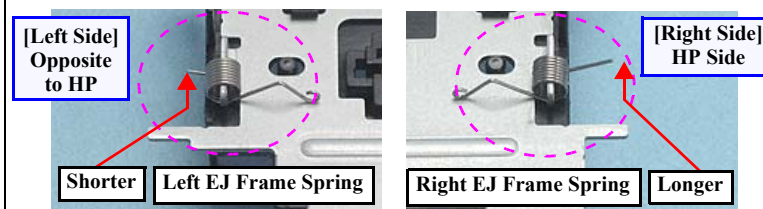

Figure 4-78. Reinstalling the Front Frame (1)
- When installing the EJ Frame Assy, make sure that the Left/Right EJ Frame Springs are attached as shown in Fig.4-78. Carefully handle the EJ Frame Assy as the springs come off easily.